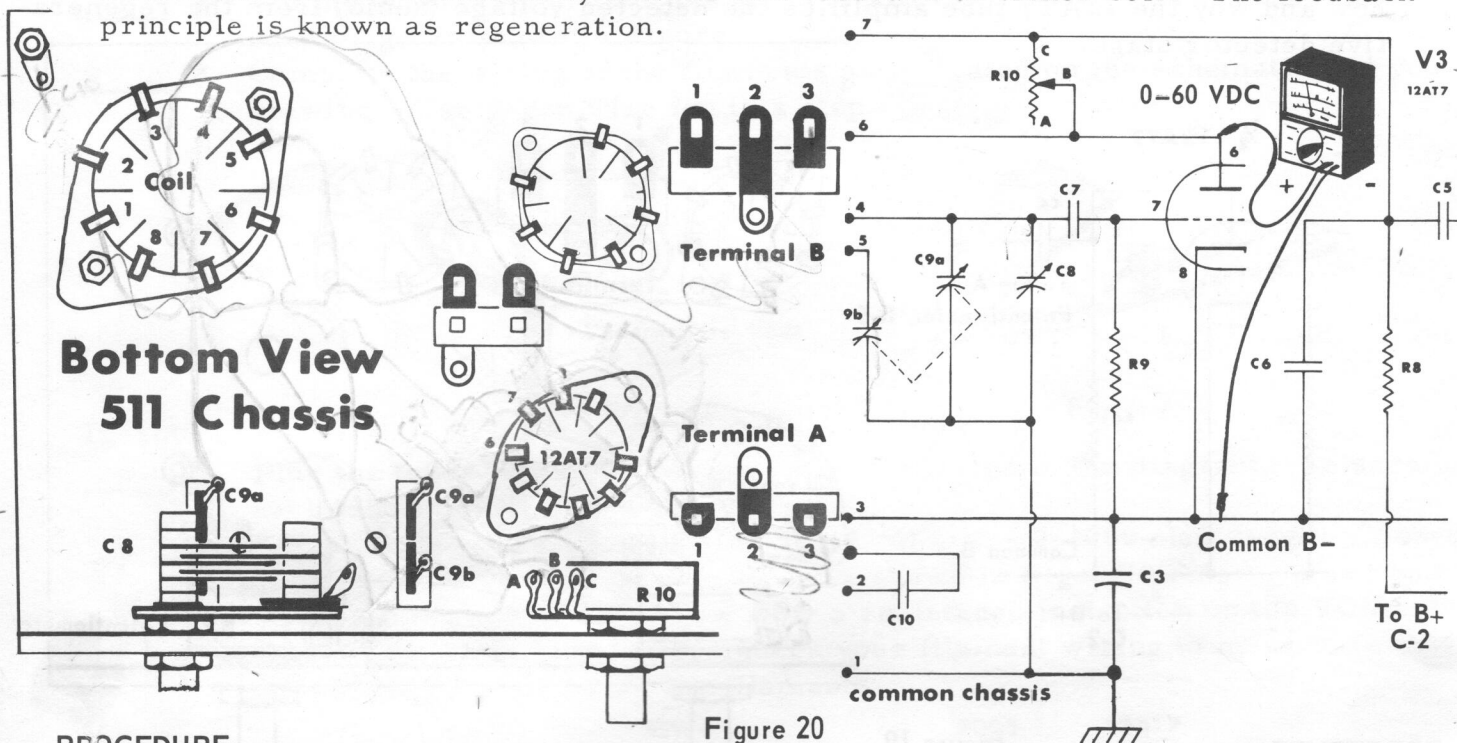

Figure 20
- 1 On the pictorial layout, Figure 20, draw the placement of resistors, R-8, R-9, and capacitors C-3, C-5, C-6, C-7, and C-10. The .05 mfd. tubular capacitor, C-3, mounts between lugs 2 and 3 of terminal A. Also, show the connections to potentiometer R-10, trimmer capacitor C-8, tuning capacitor C-9, and the 8 pin coil socket.
- 1 Adjust a VOM to the 0-60 volt DC range. Connect the positive (+) meter lead to the detector plate, pin 6, of the 12AT7 tube. Connect the negative (-) meter lead to the common B-, lug 3 of terminal A. See Figure 20.